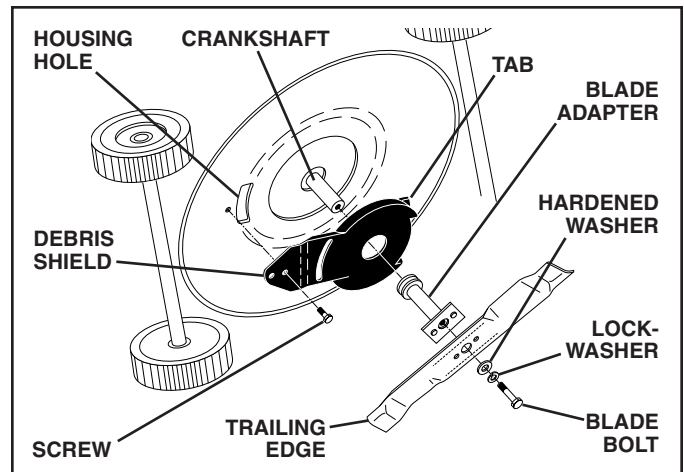

FIG. 20
6. Remove screw securing debris shield. Note that the debris shield has a tab which fits into a gap in the housing (See Fig. 20).